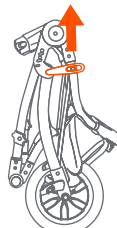
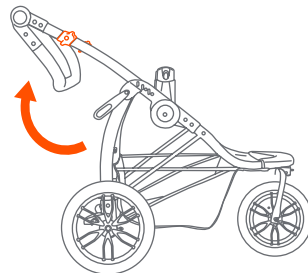

Fig. 21a
Fig. 21b
21) • Unlock the release lever (Fig. 21a) and unfold stroller frame by pulling upward on the stroller handle until the frame locks (Fig. 21b).